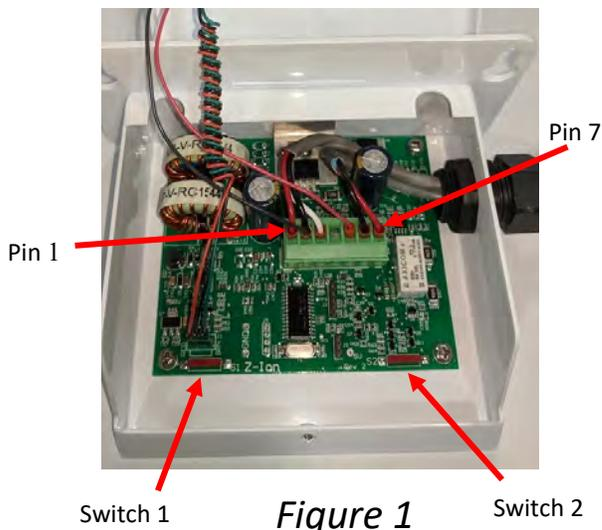

Figure 1
*There are 7 pins on the phoenix connector from left to right in Figure 1.*